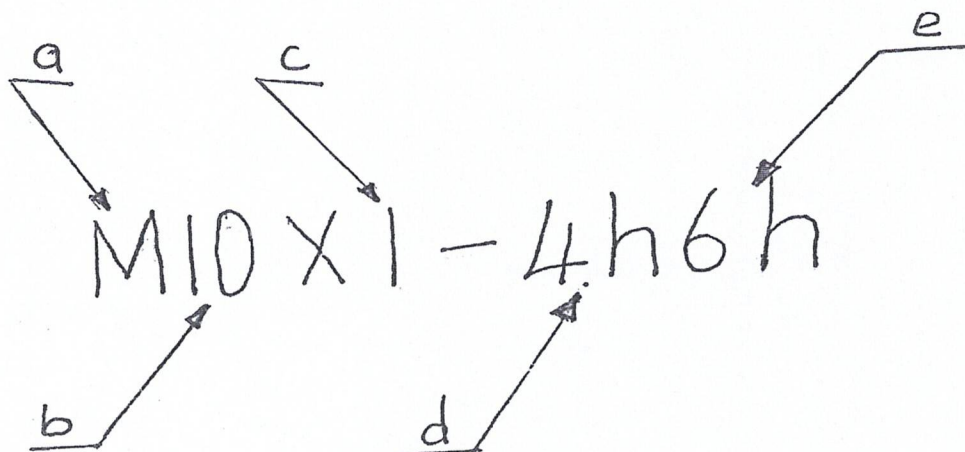

Fig Q4c
c) Fig Q4c shows a specification of a metric external thread. Name the items labelled a to e. (5 marks)